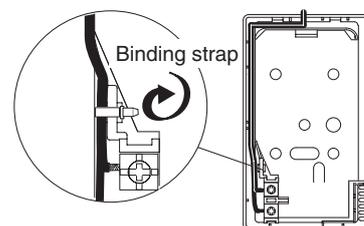

Fig. 3-47
3. Referring to Fig. 3-47, connect the controller wiring to the main unit, and then attach the binding strap (supplied).